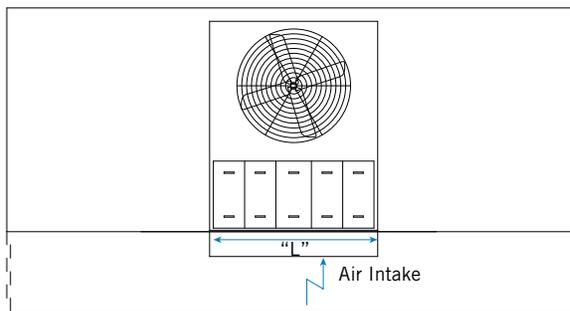

Figure 5. Plan View of Single Air Inlet Unit with Alternate Louver Arrangement
- c. If the available space does not permit the unit to be arranged with the air intakes facing the louvered or slotted walls and the enclosure cannot be modified to permit such an arrangement, consider the alternative illustrated in **Figure 5**. This arrangement should be restricted to one-cell or two-cell installations. The effective area of the louvers is only the length extending beyond the width of the unit.